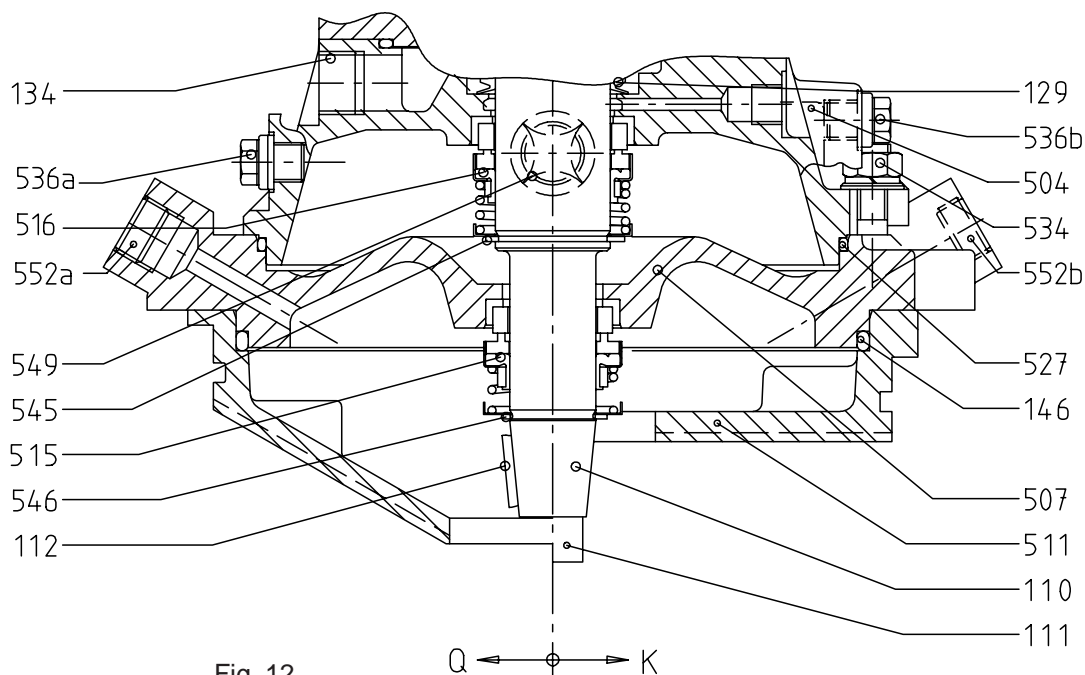

Fig. 12
d) Stationaire zitting (alle typen) (fig. 12)